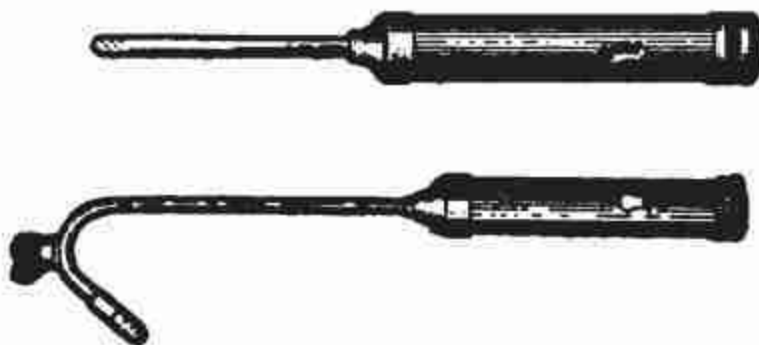

Fig. 83
15. *Electric Gas Lighter* (Fig. 83).—These usually have two or three small, dry battery cells in the handle. By pushing a button in the handle connection is made between this battery and a short piece of resistance wire in the tip. This wire gets red hot and lights the gas. It is a surprise to many that we can light illuminating gas without bringing a flame to it, and it is equally surprising that some flames, or at least sparks, may not be able to light the gas. The fact is that it is wholly a matter of *temperature and kind of gas*. Iron heated to dull red will not light the illuminating gas now being furnished in New York City, while iron at a bright red heat will do so. Iron may be hot enough to light illuminating gas but too cool to light gasoline vapour, which requires a dazzling white heat. Iron which is just under the temperature at which it gives any light may set fire to wood and paper. After